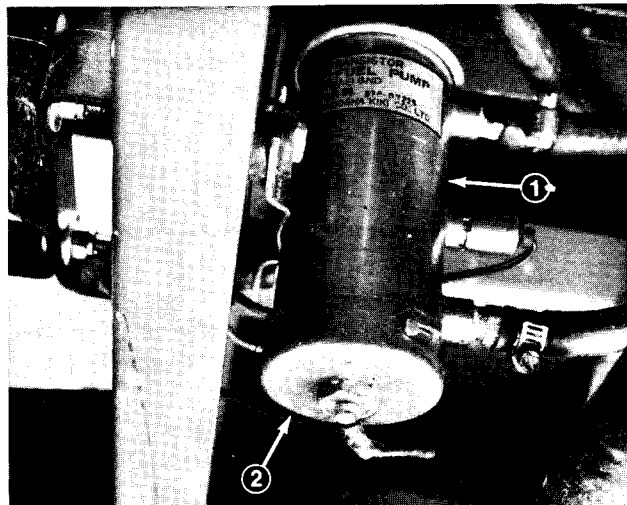

Figure 11
1. The fuel pump is located on the inner frame at the right rear of the engine (Fig. 11).
3. Put a drain pan under the fuel pump. Use a 17 mm wrench to remove the cover from the fuel pump (Fig. 11). Take care not to damage the wire when removing the cover.